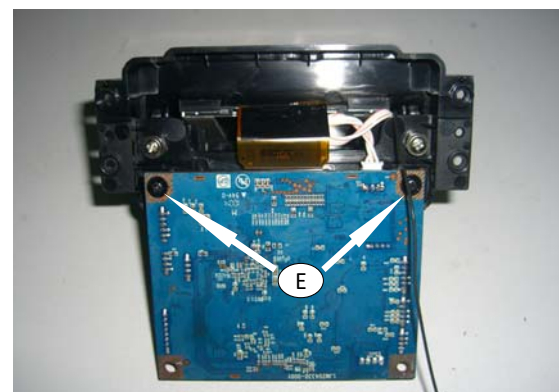

Figure 5
- 2) Loosen 2 screws "E" to detach Main Board as shown in figure 5.